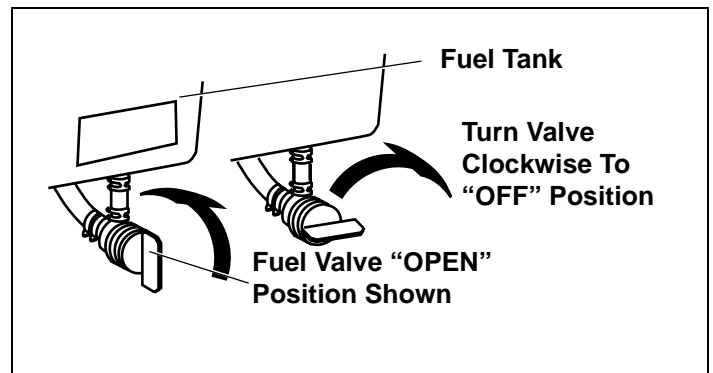

Figure 34. Fuel Valve Positions
3. Be sure fuel valve, if present (see equipment manufacturer's instructions) is in "OFF" position. See Figure 34 on page 16.
4. Be sure fuel valve, if present (see equipment manufacturer's instructions) is in "OFF" position. See Figure 34.